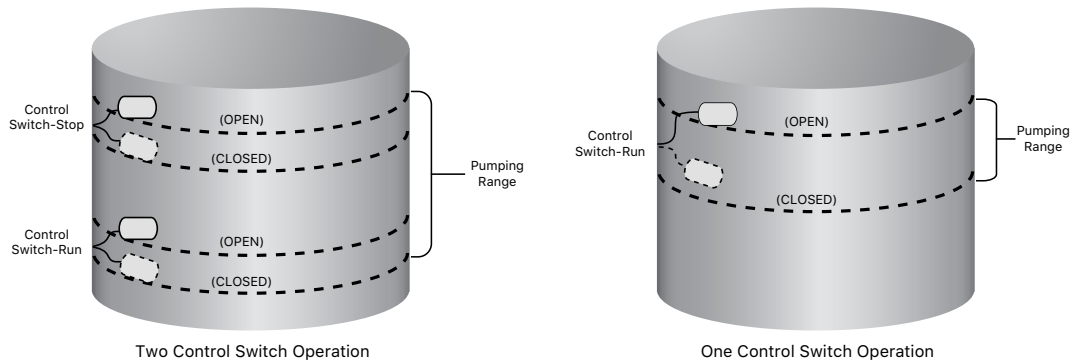

Figure 8: Control Switch Operations
2. Connect the cables from the “RUN” control switch to the Terminal Block labeled “RUN” (Figure 8).
The Photon™ Drive is designed to utilize up to two control switches for operation. When both switches are installed, the controller starts to pump and waits to shut off until both switches read “OPEN”. Once it shuts off, the controller then waits to run again until both switches read “CLOSED”. An example application (Figure 8) is to use separate level switches to indicate high and low water levels. When using two switch inputs, remove the jumper located immediately behind these switch inputs.
Alternatively, the Photon™ Drive may be configured to control water level by using a single input switch. Once properly configured for a single active input with a control switch installed, the controller starts to pump and waits to shut off until the active switch reads “OPEN”. Once it shuts off, the controller then waits to run again until the switch reads “CLOSED”. An example application (Figure 8) would be to use a single-contact level-switch that keeps the storage tank as full as possible without overflowing. For single level switch control, use only the “RUN” terminal connections. Leave the jumper in place, located immediately behind these switch inputs.